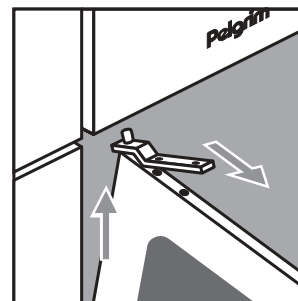

fig. 7a
- Remove the upper hinge by removing the two screws. Lift the door from the lower hinge (see fig. 7a).